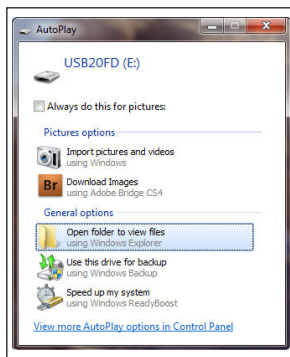

Figure 3.2a
1. Insert the flash drive into the USB port of the computer. Windows will then display the "AutoPlay" screen as shown in Figure 3.2a. Make sure the "Open folder to view files using Windows Explorer" is selected. Next, click OK.